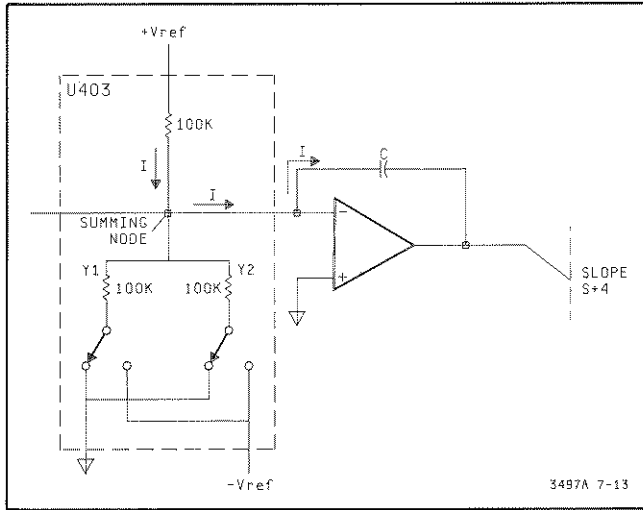
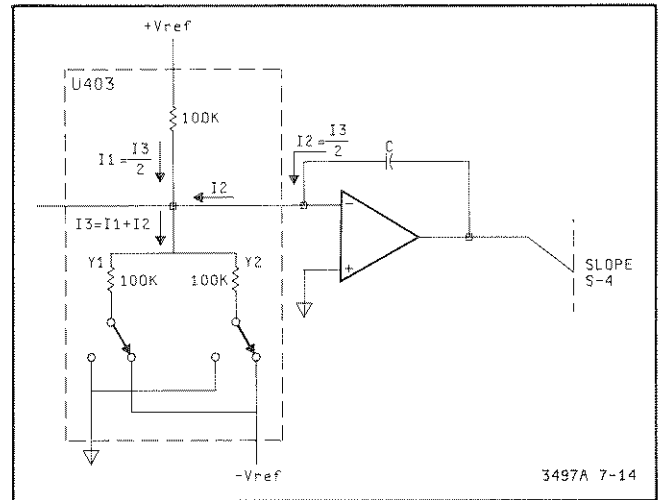

Figure 7-13. Slope S+4 Generation
Figure 7-14. Slope S-4 Generation
a. **Slope S+4.** Refer to Figure 7-13. Note that both Y1 and Y2 paths are connected to ground. Since the summing node of the paths is a virtual ground and Y1 and Y2 are also connected to ground, no current flows between the paths and the summing node. Current does flow from +Vref (Positive Reference Voltage, +12V) through a 100K ohm resistor into the integrator capacitor (C). This generates a negative going output slope.
b. **Slope S-4.** Refer to Figure 7-14. Note that both Y1 and Y2 paths are connected to -Vref (Negative Reference Voltage, -12VA). Since the summing node is a virtual ground, current flows from +Vref through a 100K ohm resistor and paths Y1 and Y2 to -Vref. Current also flows from the integrator capacitor (C) to -Vref. This current is generated because the total resistance of the Y1 and Y2 paths is smaller than the 100K ohm resistor from +Vref. The current from +Vref plus the current from the capacitor equals the total current through paths Y1 and Y2. Since the total resistance of paths Y1 and Y2 is 50K ohms, the current from +Vref (I1) and the current from the capacitor (I2) is half as large as the total Y1 and Y2 current (I3). The resultant output slope is positive.
7-173. Rundown Slope Generation. The S-4 and S + 4 slopes are generated the same way it was done for the runup operation (see paragraphs 7-165). The only difference is that they are developed with the input current removed. The S + 0 slope is generated the same way as the S + 0 slope in runup (see paragraph 7-166). The S-3 and S-1 currents use the same circuitry configuration as the S-4 current (see Figure 7-14), but use different resistor values. The resistor values are such that the S-3 current is 1/10 the S-4 current and the S-1 current is 1/1000 the S-4 current. The S + 2 current uses the same circuitry configuration as the S + 4 current (see Figure 7-13). In this case, the resistor values chosen are such that the S + 2 currents is 1/100 the value of S + 4 current.